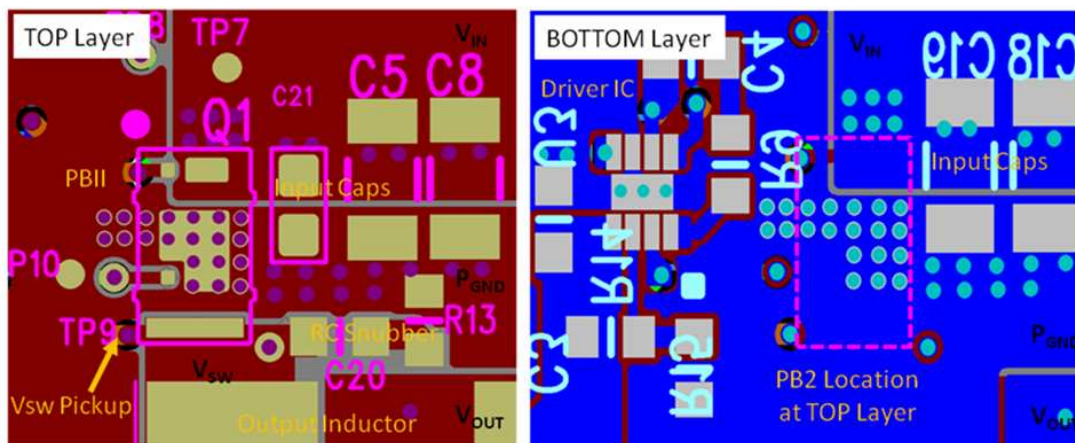

Figure 29. Recommended PCB Layout (Top Down View)
- The placement of the input capacitors relative to VIN and PGND pins of CSD87588N device should have the highest priority during the component placement routine. It is critical to minimize these node lengths. As such, ceramic input capacitors need to be placed as close as possible to the VIN and PGND pins (see Figure 29). The example in Figure 29 uses 1 x 10 nF 0402 25 V and 4 x 10  $\mu$ F 1206 25 V ceramic capacitors (TDK part number C3216X5R1C106KT or equivalent). Notice there are ceramic capacitors on both sides of the board with an appropriate amount of vias interconnecting both layers. In terms of priority of placement next to the Power Stage C21, C5, C8, C19, and C18 should follow in order.
- The switching node of the output inductor should be placed relatively close to the Power Block II CSD87588N VSW pins. Minimizing the VSW node length between these two components will reduce the PCB conduction losses and actually reduce the switching noise level. See Figure 29. (1)
- Use the smallest drill size allowed in your design. The example in Figure 29 uses vias with a 10 mil drill hole and a 16 mil capture pad.